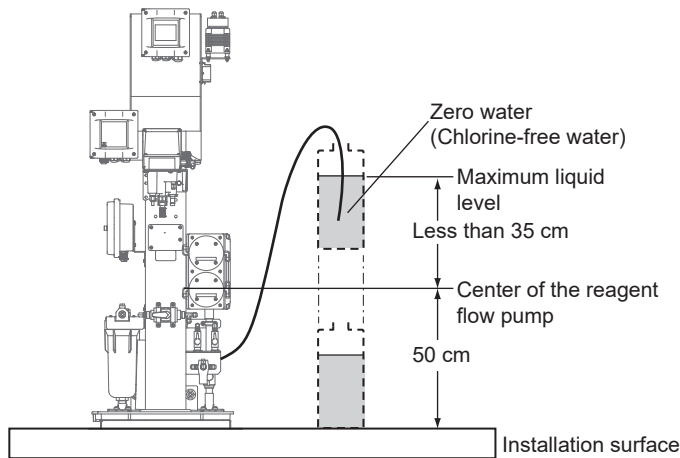

Figure 7.1 Zero water surface level
- (1) Use about 2 to 3 liters of Zero water, which is made by passing the sample through an activated carbon filter. Put the solution in a proper container. Also, prepare a tube ($\phi 6 \times \phi 4$ mm) to supply this Zero water to the residual chlorine meter.
- (2) Set the container containing the Zero water so that the liquid surface does not exceed the limit shown in Figure 7.1.
- (3) Connect a tube for Zero water supply to the standard solution piping connection port (Rc 1/4 female screw) of the residual chlorine meter. Place the other end of the tube in the Zero water.
- (4) Switch the valve of the sample-standard solution to "standard solution". Feed the Zero water to the sensor. The measured value usually stabilizes in about 5 to 10 minutes.
Set the calibration solution as shown in Figure 7.1. Insert the tip of the tube, which has been connected to the standard solution piping connection port during zero calibration, into the standard solution for calibration.